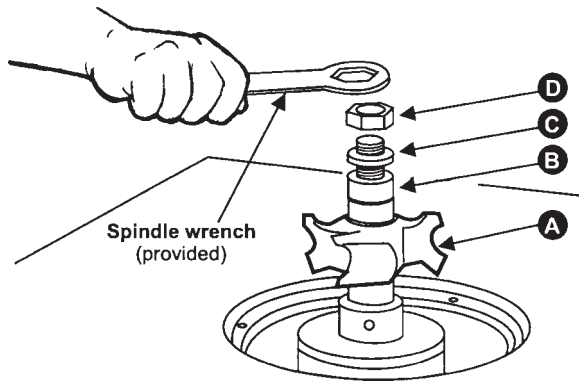

FIGURE 14
3. Set the desired cutterhead (A) on the spindle, Figure 14, making sure of the proper rotation direction (refer to illustration in "Safety Rules").
4. Put the appropriate number of stacking collars (B) onto the spindle to attain the proper height.